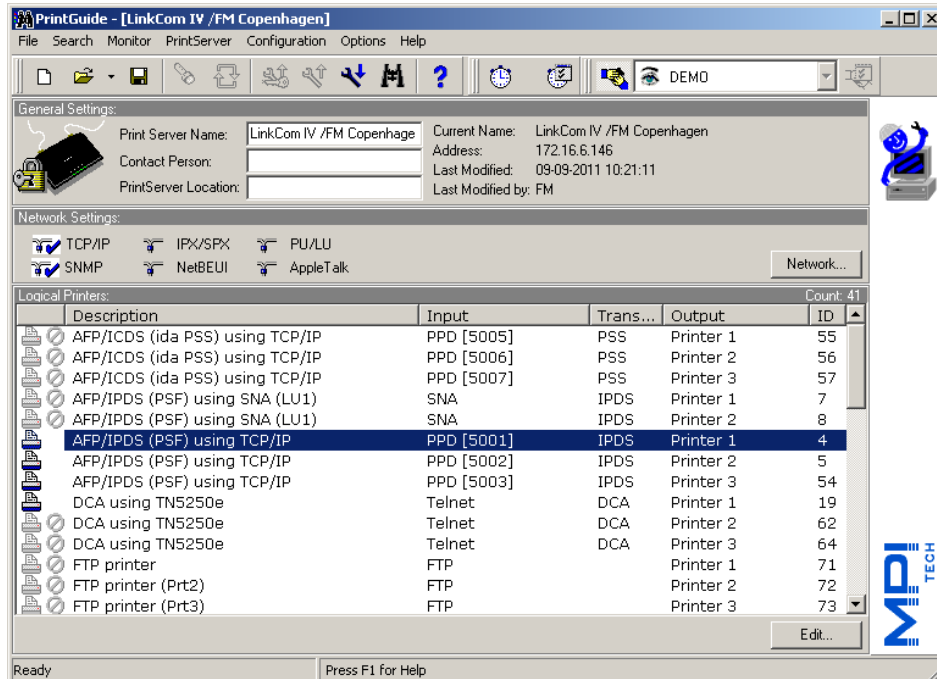

Figure 8
3. Type a Print Server Name, Contact Person, and PrintServer Location (Figure 8). This information is optional, but it will help you identify the PrintServer in the future.
4. Locate a **Logical Printer** (Figure 8) that matches your requirements and double-click it.
1. In the Configuration menu, select Network Settings... (or just click the Network button) See (Figure 8).